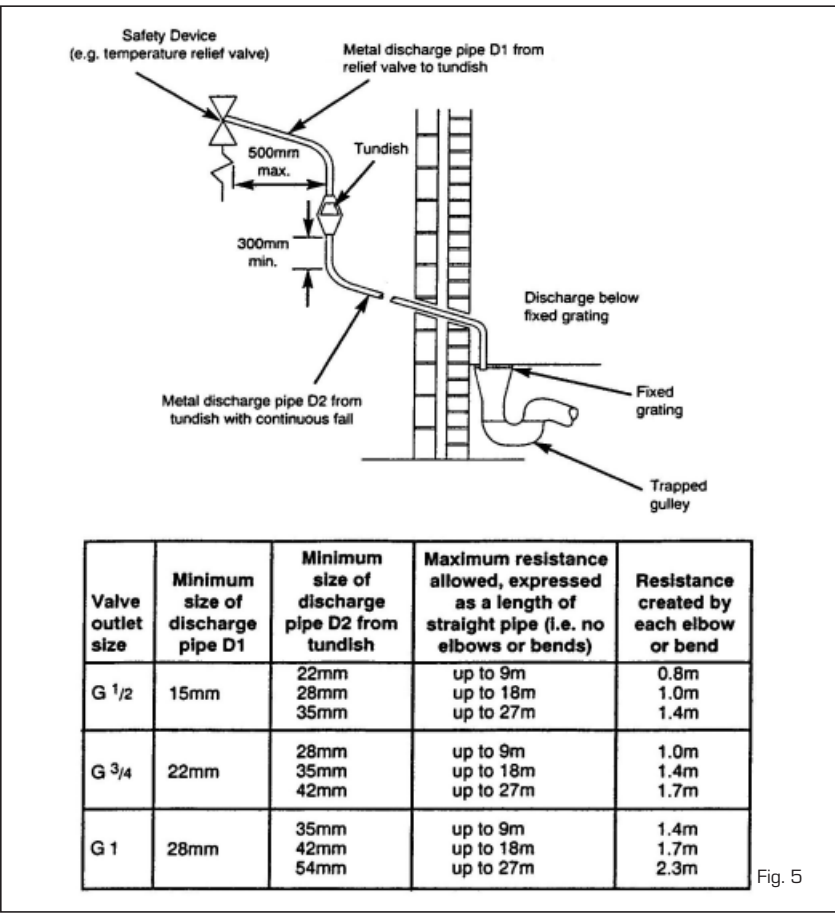

Fig. 5
2.3.1 Connection of condensation water trap [fig. 5]
approved methods shown in fig. 5/a. The system design should incorporate the connections appropriate to one of these methods.